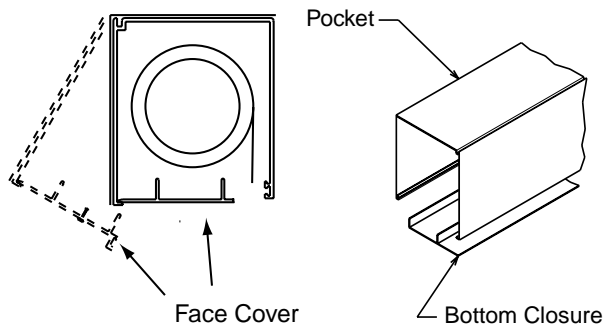

Figure 8
- 2 Remove face cover from head box by pulling down and out on the bottom edge of cover near end caps. It will snap off (see Fig. 8). For pocket style headbox, remove screws at endcaps. The bottom closure snaps down and off at endcaps then slides out of slot in headbox (see Fig. 8).